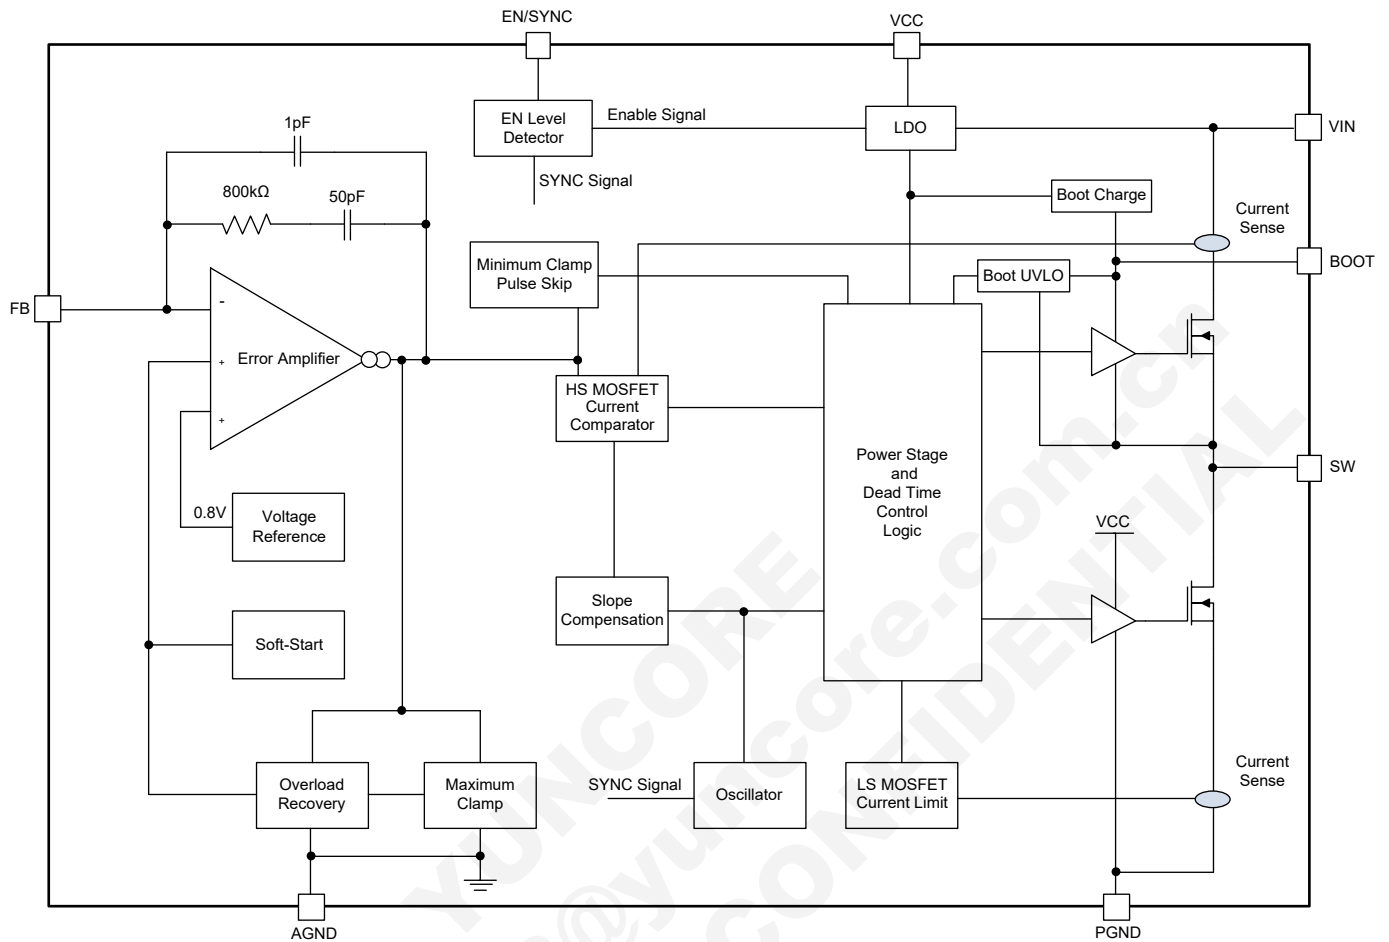
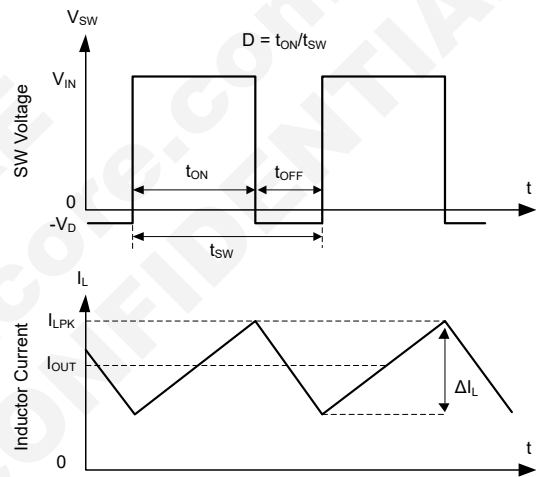
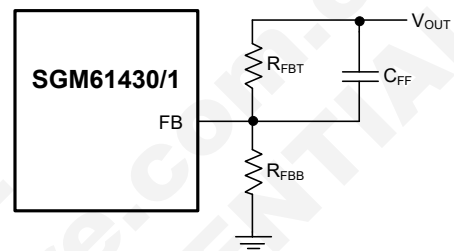

Figure 2. Block Diagram
Figure 3. Converter Switching Waveforms in CCM
Figure 7. Improving Loop Compensation by Feed-Forward Capacitor
The Functional Block Diagram and basic waveforms of these step-down synchronous regulators are shown in Figure 2 and Figure 3. The N-MOSFETs are used for high-side (HS) and low-side (LS) (synchronous rectifier) switches. The HS duty cycle ($D = t_{ON}/t_{SW}$) is controlled in closed loop to regulate and maintain the output voltage at a constant level. The switching period is $T_{SW} = 1/f_{SW}$, and the HS on-time is t_{ON} . When HS is turned on, the SW node voltage sharply rises towards V_{IN} , and the inductor current (I_L) starts ramping up with $(V_{IN} - V_{OUT})/L$ slope. When HS is turned off, the LS is turned on after a very short dead time to avoid shoot-through, and I_L ramps down with $-V_{OUT}/L$ slope. When the inductor current is continuous (either due to sufficient load, or FPWM), the output voltage is proportional to the input voltage and duty cycle ($V_{OUT} = D \times V_{IN}$) if component parasitics are ignored.
The SGM61430/1 is internally compensated (see Figure 2) and is stable over the entire f_{SW} and V_{OUT} operating range. However, the phase margin can be low for some ranges of V_{OUT} when low ESR ceramic capacitors are used in the output. In such cases, it is recommended to use a feed-forward capacitor (C_{FF}) in parallel with the R_{FBT} to improve the transient response as shown in Figure 7.
The HS switch over-current protection is natural in peak current mode control. In each cycle the HS current sensing starts a short time (blanking time) after it is turned on. The slope compensation ramp is deducted from the EA (Error Amplifier) output to avoid subharmonic oscillations and the result is compared to the HS current to determine the HS turn-off time (on-time). See Figure 2 for details. Before comparison, the EA output is clamped to a fixed maximum threshold (I_{HS_LIMIT}) to limit the current. So, the peak current limit of the high-side switch is not affected by the slope compensation and remains constant over the full duty cycle range.